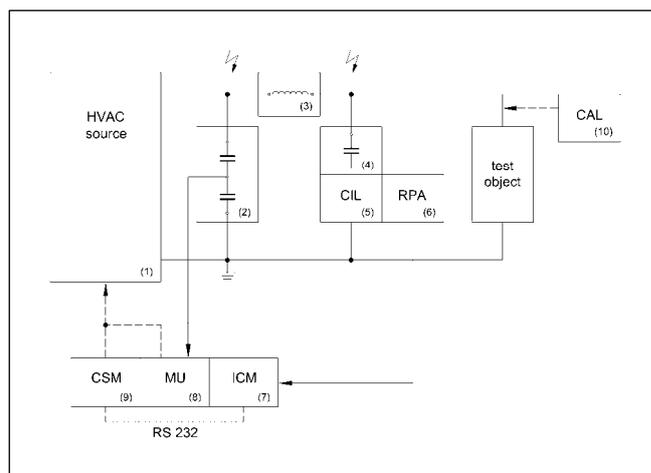

Fig. 1: PD measuring circuit according to IEC 60270 (explanations in the text)
For PD measurement according to IEC 60270 the test object is connected to the HVAC source ((1): AC circuit with test transformer or AC resonant circuit) via a filter and decoupling unit (Fig. 1). The Pi-filter consists of the voltage divider ((2): type WMC, see Data Sheet 1.31/1), the blocking impedance ((3): type LS, see Data Sheet 1.35/1) and the coupling capacitor ((4): type WMC, see Data Sheet 1.31/1). It blocks HF noise signals arriving via the HV connection and offers a circuit of low impedance for PD signals from the test object. The capacitance of the coupling capacitor (4) should not be smaller than 1/10 of that of the test object. The voltage divider (2) can be realized by the bushing of the test transformer or reactor, in case of low external noise it can fall away, and the coupling capacitor (4) can be used for voltage measurement, too.
The PD measuring impedance ((5): types CIL and CIT, see Data Sheet 6.31) can be arranged in the earth connection of the coupling capacitor (4) (Fig. 1) or the test object. For optimum adaptation, the measuring impedance shall be selected according to the capacitance of the coupling capacitor and the current through the impedance. The measuring impedance shall be directly coupled to a pre-amplifier ((6): type RPA, see Data Sheet 6.32), which is connected by a coaxial cable to the PD detector (7). The remote-controlled pre-amplifier conditions the PD signal according to the proper-selected frequency range of the measurement and amplifies it before transmission for an improvement of the signal-noise ratio. Furthermore it provides enhanced over-voltage protection.